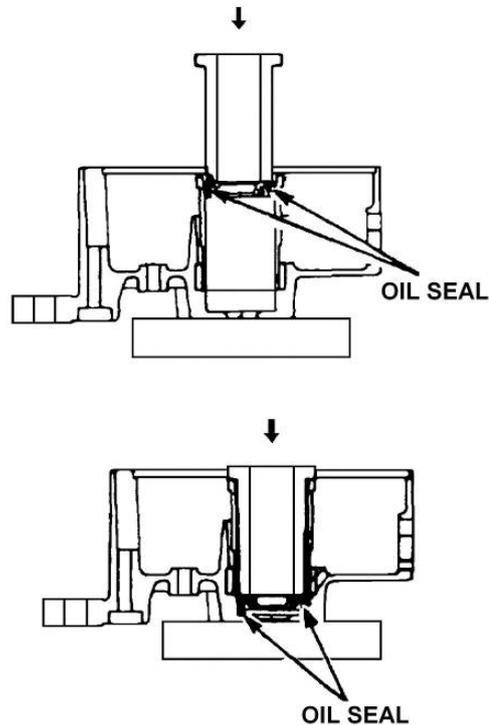

Figure 325 Installation of the Vacuum Pump Oil Seal
- n. Check the vacuum pump oil seal for signs of damage or excessive wear. If necessary, pry out the seal with a screwdriver, then using a suitable arbor, press in the new seal (Figure 325).